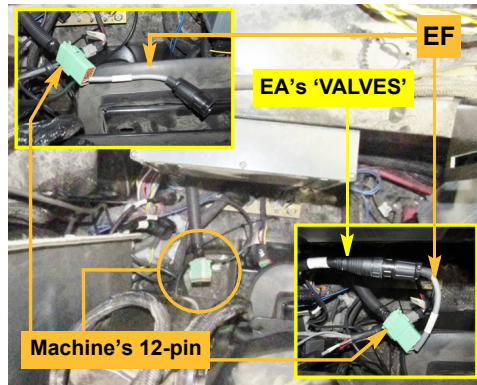

Figure 3a: Machine harness to ECU connection
- a. Locate the machine's unconnected 12-pin connector in the right rear corner of the cab (rearward of the ECU installation—circled in Figure 3a). Install adapter cable **EF** between that connector (Figure 3a top/left inset) and **EA**'s branch cable labeled 'VALVES' (Figure 3a bottom/right inset).